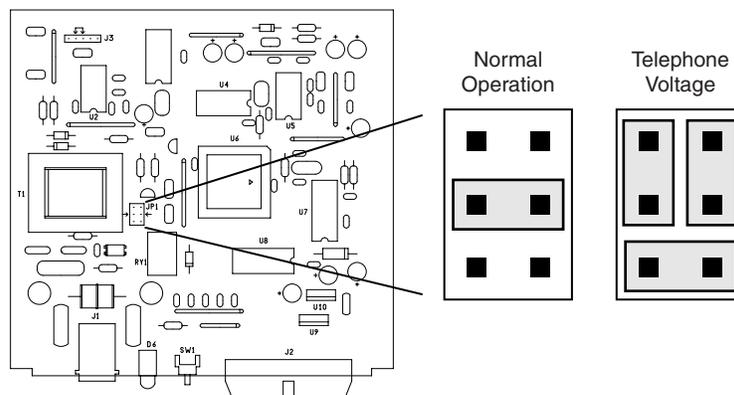

Figure 4.2; Telephone voltage jumpers JP1
- Arrange three jumpers as shown in Figure 4.2 to enable the telephone voltage. If you do not have the extra jumpers, clip leads may be used but make sure that they do not short any components.
- *This step is extremely important!* When you are finished, disconnect the ribbon and telephone cables. Replace the jumper at JP1 to its original position for normal operation as shown in Figure 4.2. Arrows on the circuit board indicate the correct position for the jumper. Failure to install the jumper properly may cause damage to the DAI-2 or other equipment.